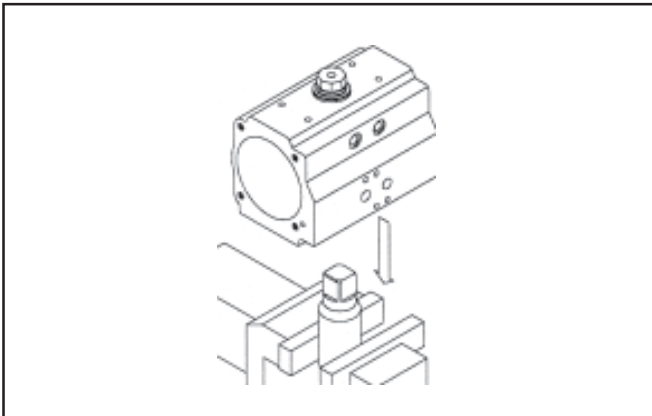

Fig. 22
Pistons assembly (25): (Figures 22, 23, 24a, 24b and 25)
- Install piston O-rings (16), the Piston skirt (5) and piston head (15) bearings.
- Grease the internal surface of the body (29) and the piston (25) rack teeth.
- Hold the body (29) in a horizontal position by inserting the top of the shaft into a vice or the bottom of the shaft connection into a male drive fitted in a vice as shown in figure 22.